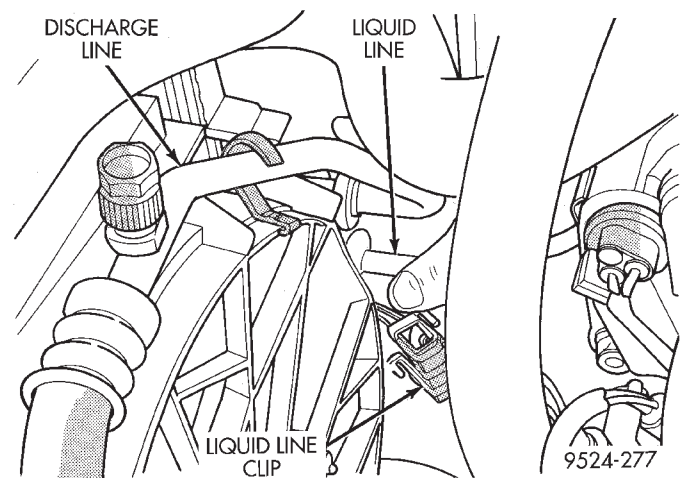

Fig. 61 Clip Removal
- (1) Remove refrigerant from the A/C system using a refrigerant recovery machine.
- (2) Remove A/C quick connect clip at condenser (Fig. 61).